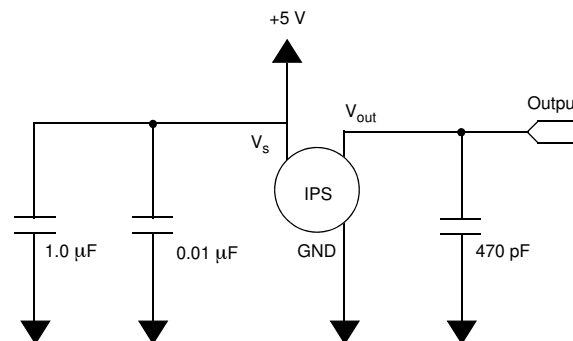
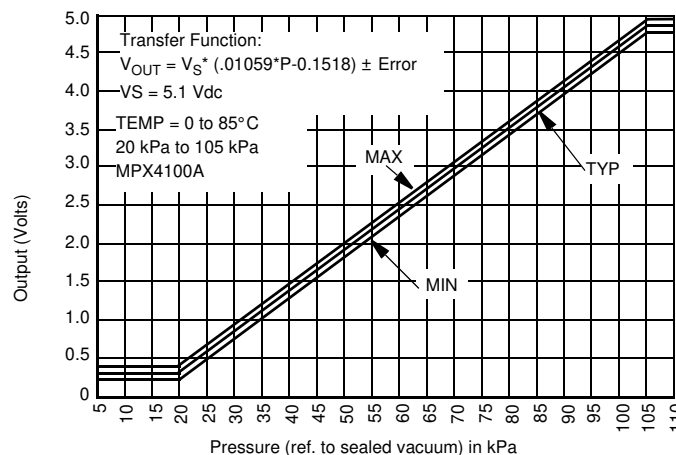

Figure 3. Recommended Power Supply Decoupling and Output Filtering
Figure 4. Output versus Absolute Pressure
**Table 1. Operating Characteristics** ( $V_S = 5.1$  Vdc,  $T_A = 25^\circ\text{C}$  unless otherwise noted,  $P_1 > P_2$ . Decoupling circuit shown in Figure 3 required to meet electrical specifications.)
Figure 3 shows the recommended decoupling circuit for interfacing the output of the integrated sensor to the A/D input of a microprocessor or microcontroller. Proper decoupling of the power supply is recommended.
Figure 4 shows the sensor output signal relative to pressure input. Typical, minimum, and maximum output curves are shown for operation over a temperature range of 0° to 85°C using the decoupling circuit shown in Figure 3. (The output will saturate outside of the specified pressure range.)